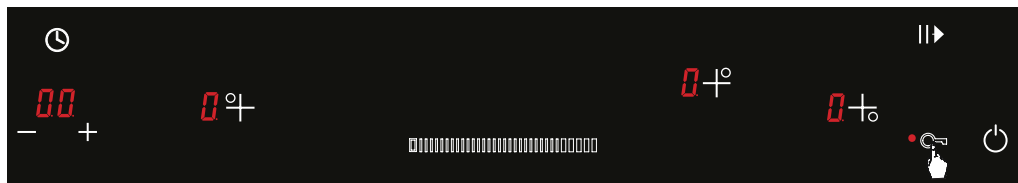

Figure 12
1. Child lock is activated by pressing the lock key (  ) once to prevent undesired operations. (See Fig. 12) The dot ( ● ) beside the lock symbol illuminates.